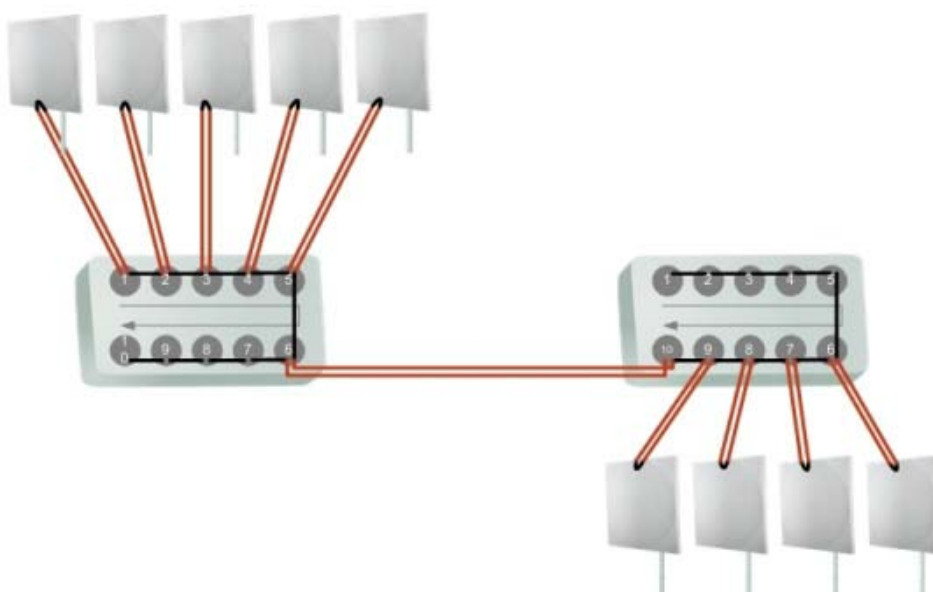

Figure 11-7: Cascading two HSS units
2. The next available SYNC port of the first HSS unit should be connected to SYNC 10 of the second HSS unit as shown in Figure 11-7. In the illustration, the next available port on the first HSS unit is SYNC 6.
3. The second HSS unit may be filled out with up to nine more ODUs in **reverse** order. That is, connect SYNC 9, SYNC 8, SYNC 7... as shown in Figure 11-7.
- To add a further HSS unit: Connect the next available SYNC port from the second HSS unit in **descending order** (SYNC 5 in Figure 11-7) to SYNC 1 of the third HSS unit.
#### **Two cascaded HSS units as shown in Figure 11-7**